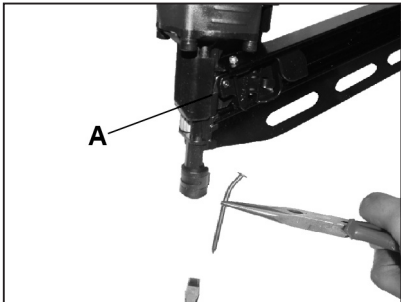

Figure 8
3. Use a pair of needle nose pliers and/or a flat screwdriver to remove bent fastener from back of nosepiece (see Fig. 8). If fastener cannot be removed as described, it may be
- 1) Remove two screws (A) Fig. 8, (one each side of tool).